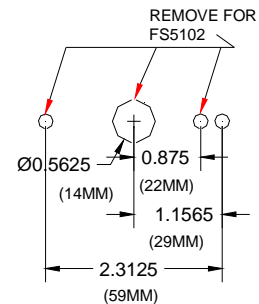

FIG. 1
- 2.) Remove appropriate knockouts for switch being used. Refer to Fig. 1.